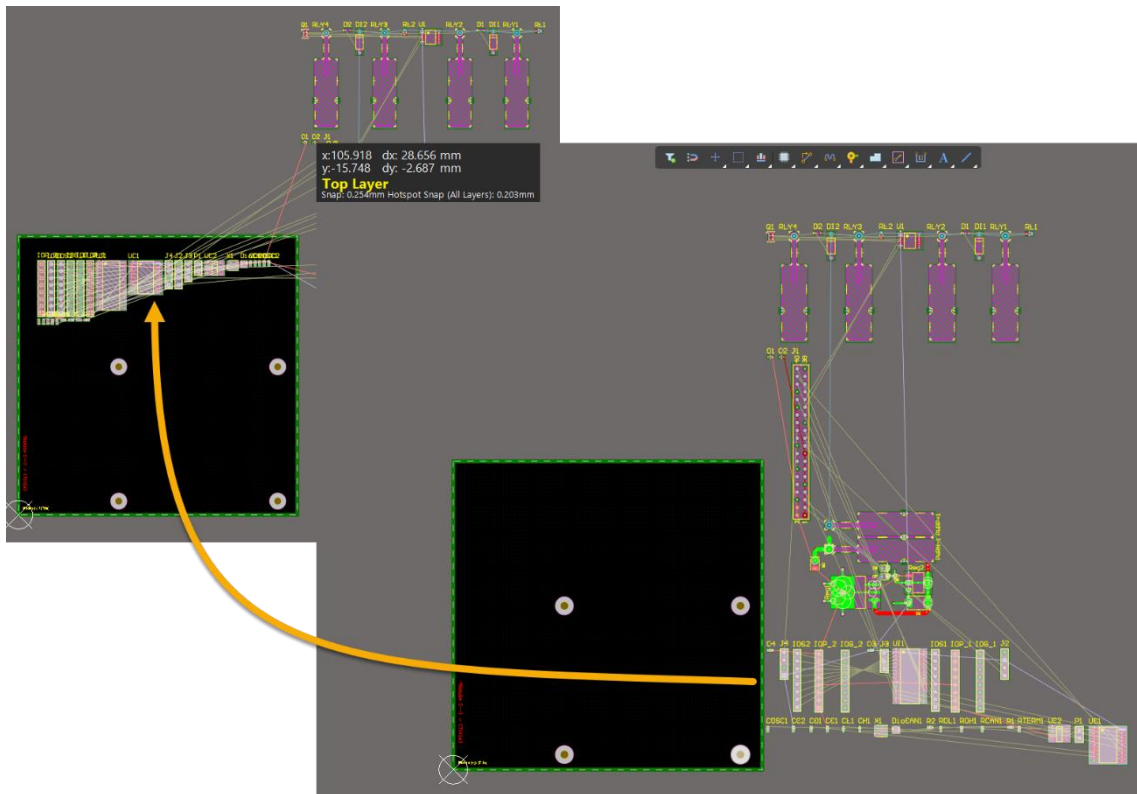

Figure 5. Component Placement within the board area
21. Select a Group of components in the design by drawing a rectangle around them, Figure 5.
- b) Compare your result with Figure 5 below. This illustrates how you can get any selected group of components within a specific area of your board to begin placement.